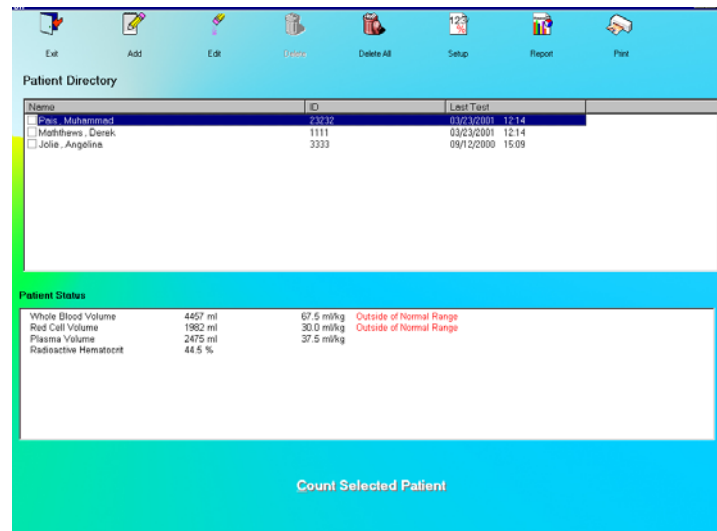

Figure 10-45 Cr51 Blood Volume Test Main Screen
Click the **Cr51 Blood Volume Test** button or press *Alt+C* on Figure 10-1 Lab Tests Main Screen. Figure 10-45 Cr51 Blood Volume Test Main Screen will appear. The **Patient Directory** box will be empty if there are currently no existing patients in the database. Each added patient will appear in this box with their name and ID number along with the time and
1. Click the  icon on Figure 10-45 Cr51 Blood Volume Test Main Screen. The screen appears as shown in Figure 10-46. This screen allows the user to enter counting parameters, which will be the default settings each time a patient is entered into the Cr51 Blood Volume Test Patient Directory. These settings may be changed as needed for any individual patient or patients.
- Click the **Done** button to save changes or click the **Cancel** button to discard the changes and return Figure 10-45 Cr51 Blood Volume Test Main Screen.
- Click the  icon on Figure 10-45 Cr51 Blood Volume Test Main Screen. The Patient Information screen appears as shown in Figure 10-47, with information to be entered in three sections.
8. To add more patients, click the  icon on Figure 10-45 Cr51 Blood Volume Test Main Screen.
information or click the  button or press the *N* key to return to Figure 10-45 Cr51 Blood Volume Test Main Screen.
4. Click the  button to save changes or click the  button to discard the changes and Figure 10-45 Cr51 Blood Volume Test Main Screen.